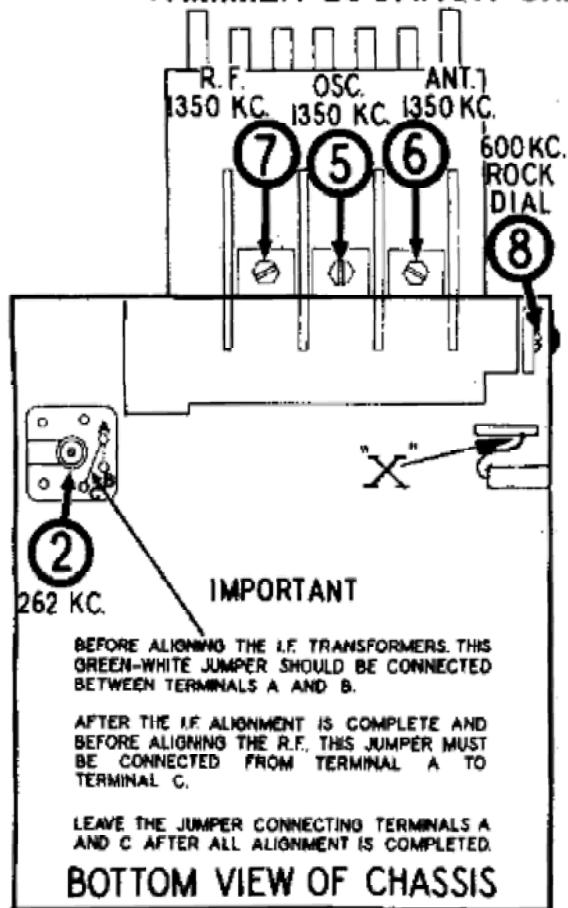

FIG. 1
2. Extreme sharpness of tuning of the receiver. Remedy: The green-white jumper wire on the bottom of the 1st I. F. transformer may be improperly connected. The correct connection for normal operation of the receiver is shown in FIG. 1 on page 9 (Terminals A and C should be connected together).